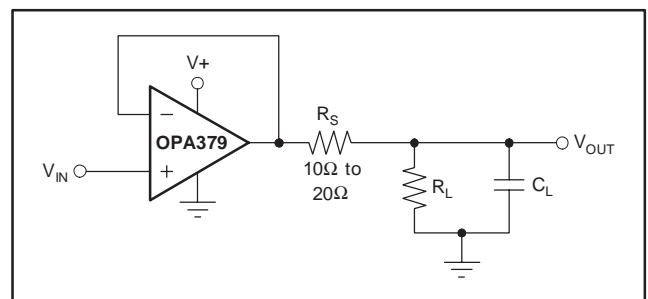

Figure 2. Series Resistor in Unity-Gain Buffer Configuration Improves Capacitive Load Drive
Follower configurations with load capacitance in excess of 30pF can produce extra overshoot (see typical characteristic, *Small-Signal Overshoot vs Capacitive Load*) and ringing in the output signal. Increasing the gain enhances the ability of the amplifier to drive greater capacitive loads. In unity-gain configurations, capacitive load drive can be improved by inserting a small (10 $\Omega$  to 20 $\Omega$ ) resistor,  $R_S$ , in series with the output, as shown in Figure 2. This resistor significantly reduces ringing while maintaining DC performance for purely capacitive loads. However, if there is a resistive load in parallel with the capacitive load, a voltage divider is created, introducing a Direct Current (DC) error at the output and slightly reducing the output swing. The error introduced is proportional to the ratio  $R_S/R_L$ , and is generally negligible.